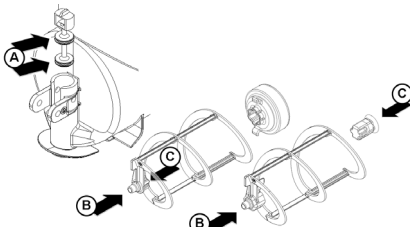

figure 10
- 2 Lubricate faucet piston, outer spiral and outside magnetic rotor (see points A, B and C of figure 10) only with the grease supplied by the manufacturer or other **food grade approved** lubricant.